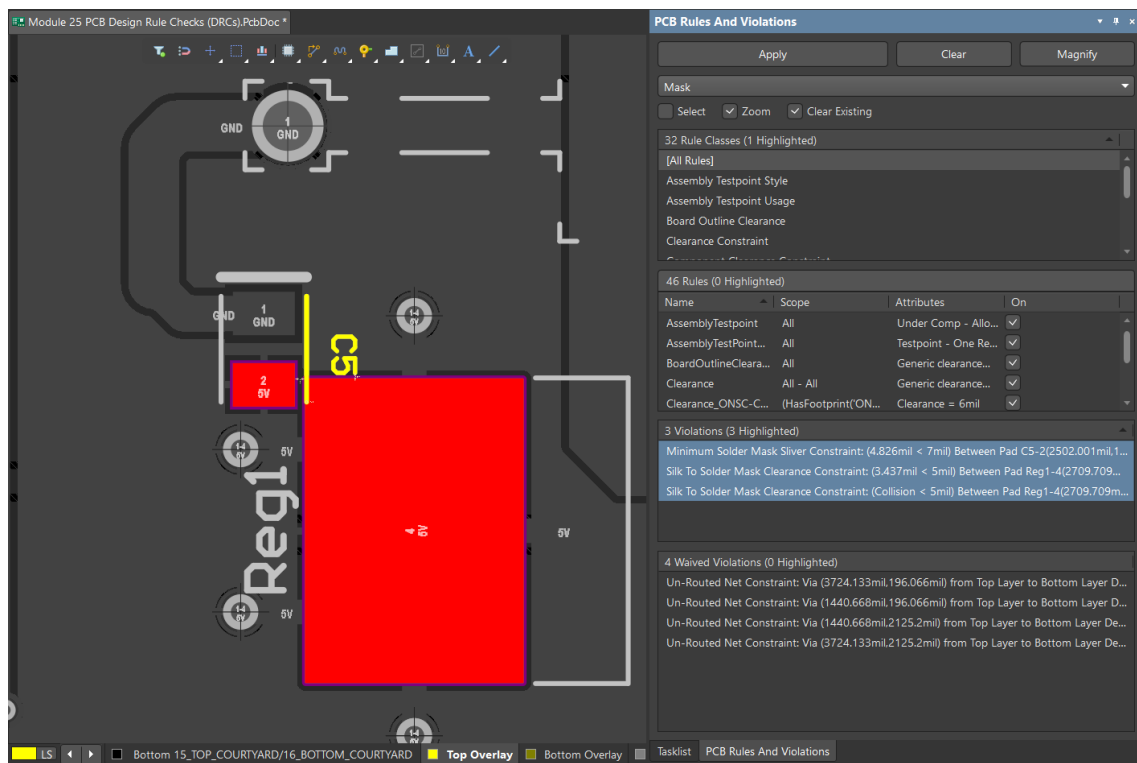

Figure 23. Remaining violations
50. Return to the PCB Rules and Violations panel. Select **[All Rules]** from the *Rule Class* section to view the three (3) remaining violations.
51. Select each of the violations to see different primitives highlighted near the same pad as shown in Figure 23.